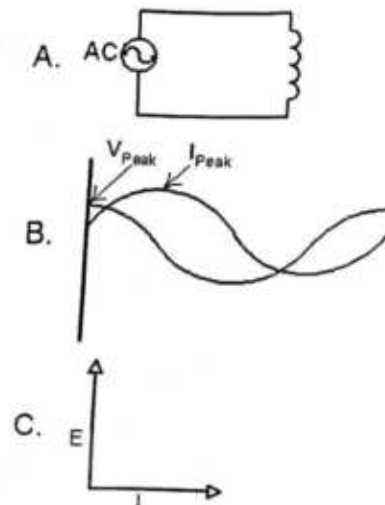

Fig. 9 Inductive Circuit Phase Representations
It is interesting to note that in an inductive circuit the voltage "e" leads the current "i," hence the word "ELI," where represents voltage and is shown as Vpeak on the graph. Ref to Fig. 9 (A), (B) and (C).